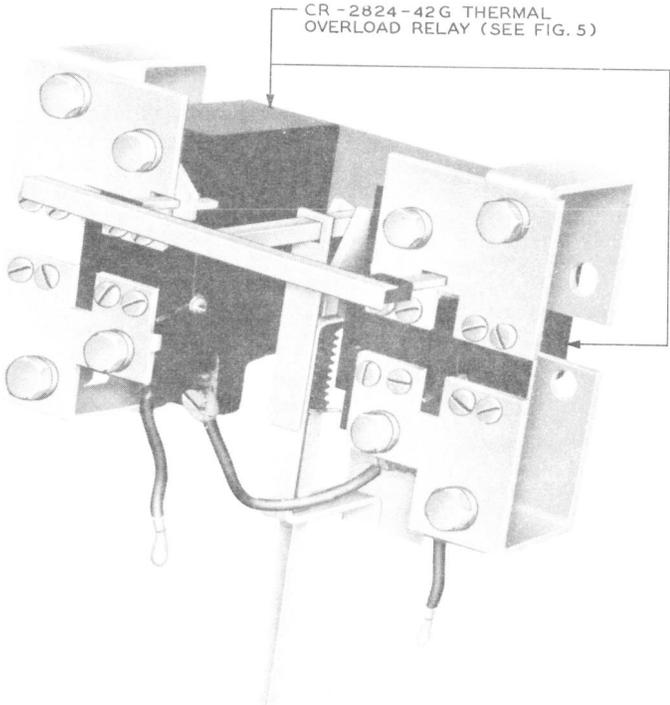

Fig. 16 - CR9905G101A2 Thermal Overload Relay
3.08 The CR-2824-TC221-C thermal overload relay shown in Fig. 6, is replaced only as a unit by the CR9905G101A2 thermal overload relay shown in Fig. 16. On the form K22 starter, the leads can be disconnected easily after removing the three mounting screws and tipping the panel forward.
3.10 The CR9905G101A2 thermal overload relay shown in Fig. 16, can be replaced as a unit, or the heater elements in the relay can be replaced. See 3.11.
9. To add new Fig. 16 for the CR9905G101A2 thermal overload relay.